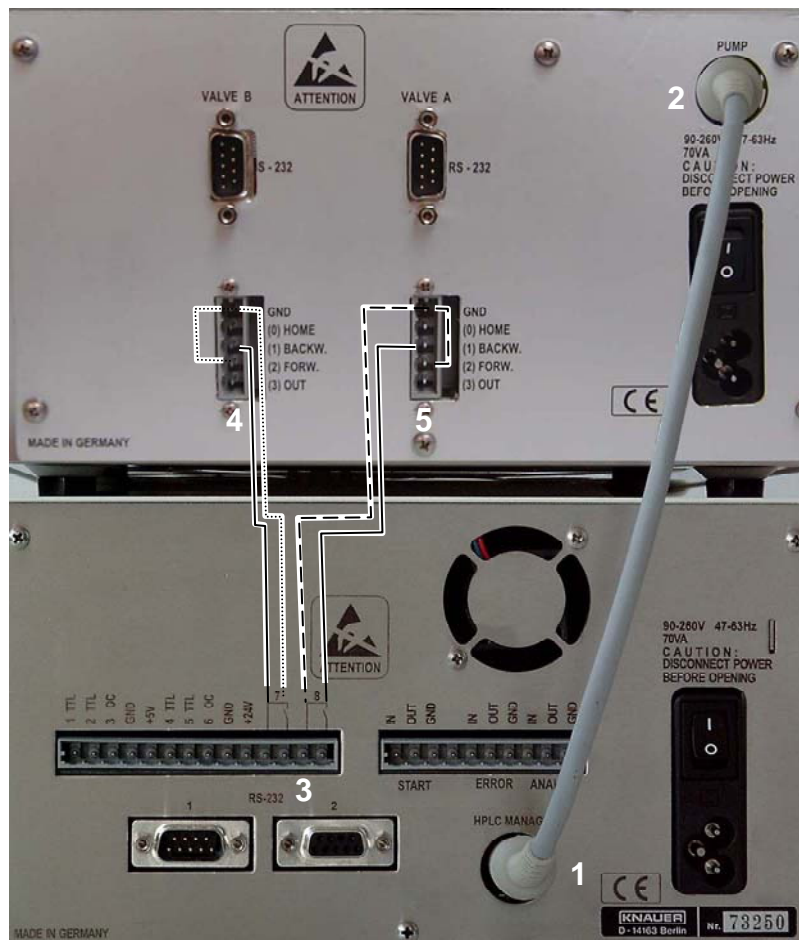

Fig. 6 Electrical connections of the Sample Preparation Unit 6300
1. Plug the included connection cable into the "HPLC Manager" outlet on the rear panel of pump, Fig. 6, Pos. 1.